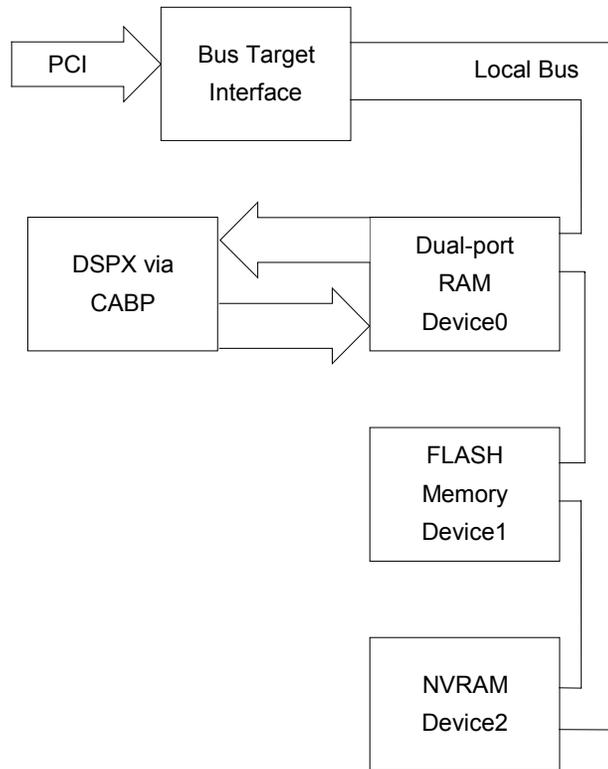

Figure 2. Bus Target Interface Connection
**Bus Target interface** provides a bridge between the PCI bus and the ACL local bus ISA controller. The interface can select up to four local bus devices, although only three are used in the drives. Figure 2 shows the Bus Target interface connection.